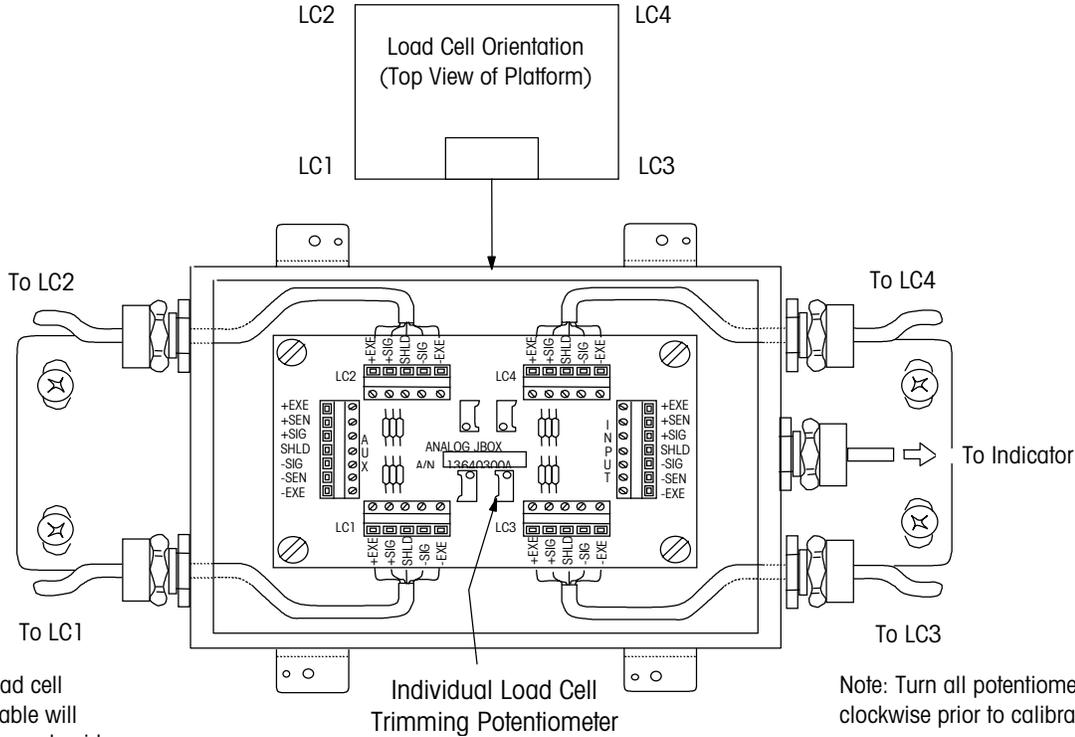
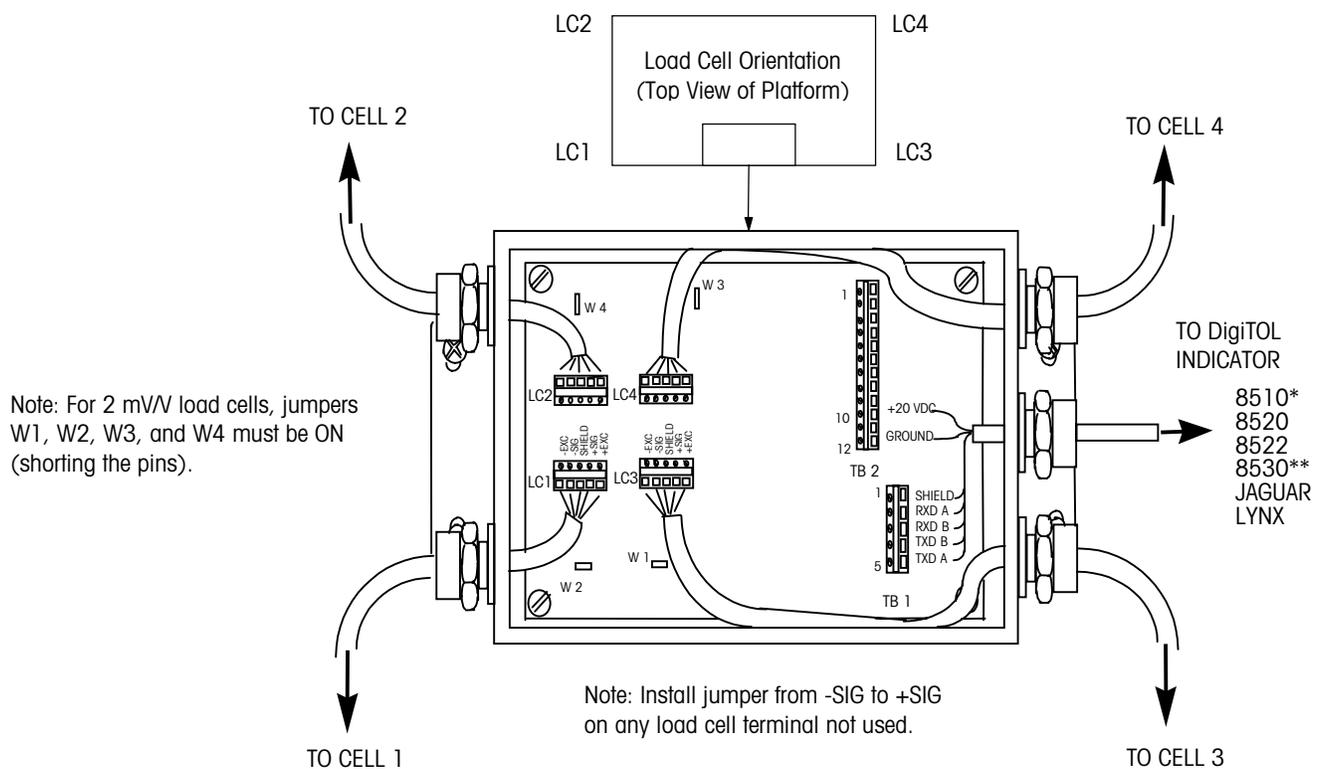
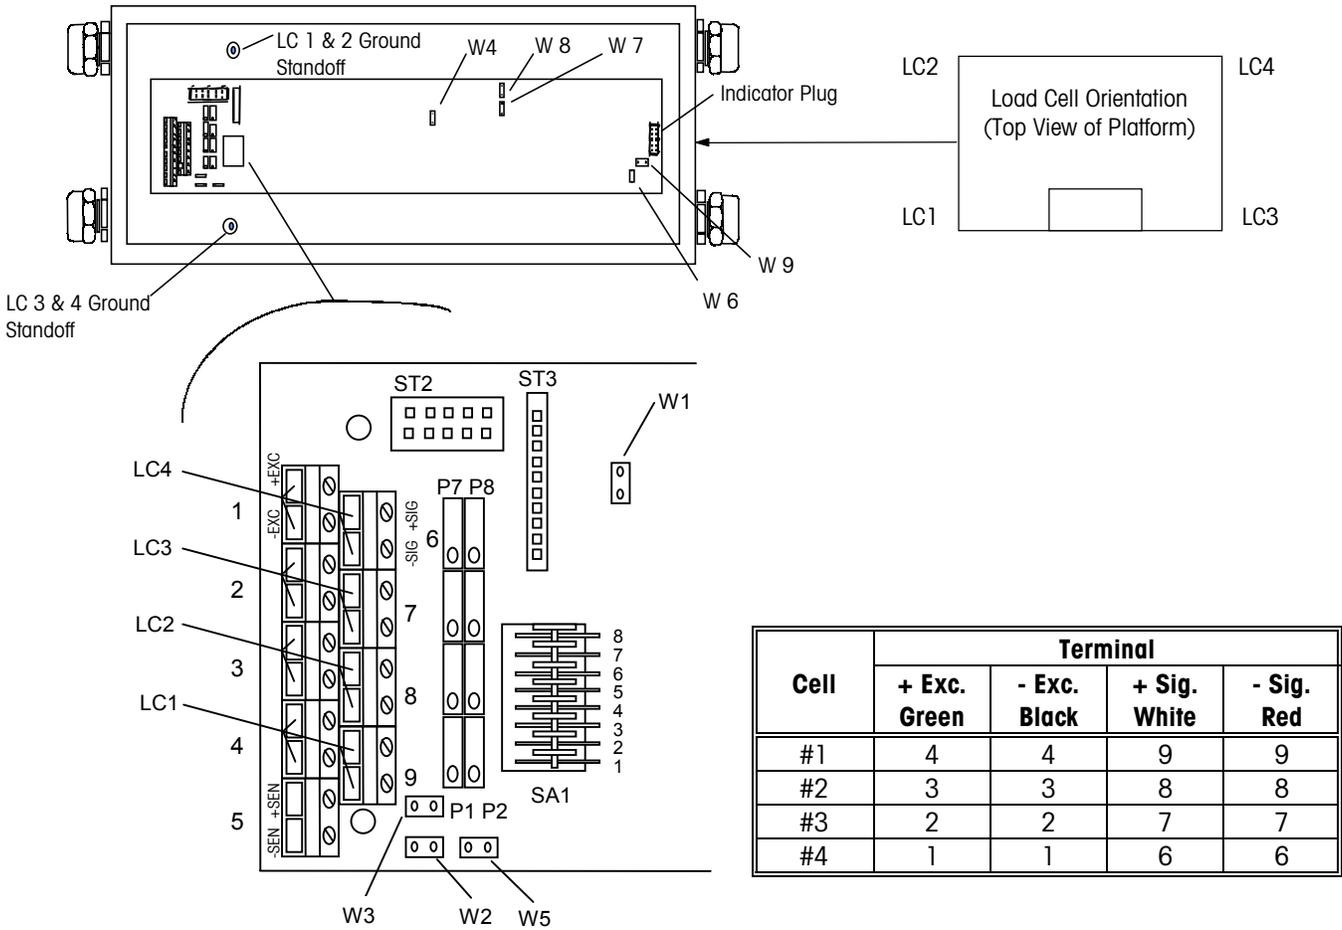

Figure 3-6: Analog Junction Box Detail
Figure 3-7: DigiTOL Junction Box Detail
Figure 3-8: IDNet Junction Box Detail and Wiring
7. Connect the instrument cable to the INPUT terminal on the PCB as shown in Figure 3-6 For Analog, Figure 3-7 For DigiTOL, or Figure 3-8 For IDNet.
A Model 2158 floor scale is used with an analog junction box for summing the load cell outputs. Only analog-compatible indicators work with the analog junction box. See Figure 3-6 and Table 3-1 for the correct cable connection.
A Model 2160 floor scale is used with a DigiTOL junction box for summing load cell outputs. Only DigiTOL indicators work with a DigiTOL junction box. In the DLC mode, the indicator serves as the host for the DigiTOL junction box, allowing you to use the indicator's keypad to adjust scale parameters. See Figure 3-7 and Table 3-2 for cable connections.
A Model 2162 floor scale is used with an IDNet junction box to output an IDNet data format compatible with the METTLER TOLEDO ID1 and ID5 weight display, or the Jaguar industrial terminal. See Figure 3-8 and Table 3-3 for cable connections. For information about the indicator and how to operate it, refer to the appropriate indicator manual.